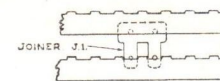

Figure 7.
**JOINERS.** A variety of Joiners is supplied to enable the builder to join two parts at any selected spot and to obtain a required alteration in angles or planes. Figs. 7 and 8 illustrate but two of the many uses for Joiners.